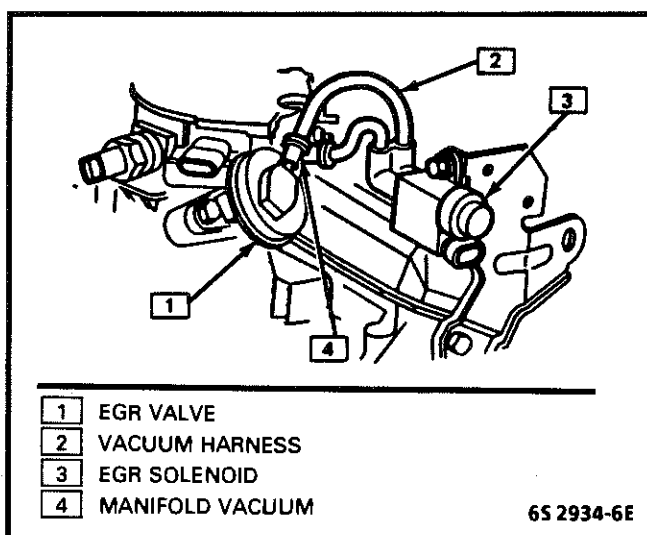

Figure C7-5 - EGR &amp; Solenoid 2.8L
3. Electrical connector at solenoid, (Figure C7-5)